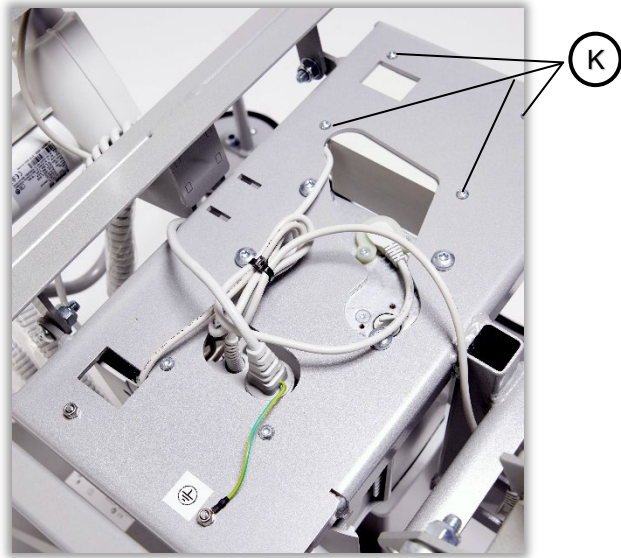

FIGURE 9. TOP FRAME
5. Undo the four screws (**K**) located on the left side of the top frame, to allow the removal of the battery (**Figure 9**).